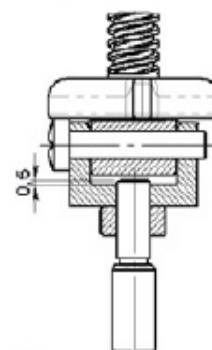

Fig. 2
- screw locknut **(1)** hex nut on to the valve stem and secure with locknut **(2)**, see also Fig. 2;